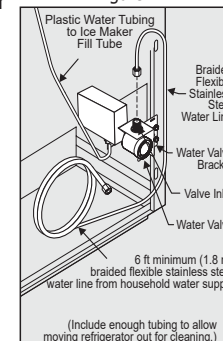

Figure 2
5. **If you use braided flexible stainless steel tubing** - The nut is already assembled on the tubing. Slide nut onto valve inlet and finger tighten nut onto valve. Tighten another half turn with a wrench; DO NOT over tighten. See Figure 2.